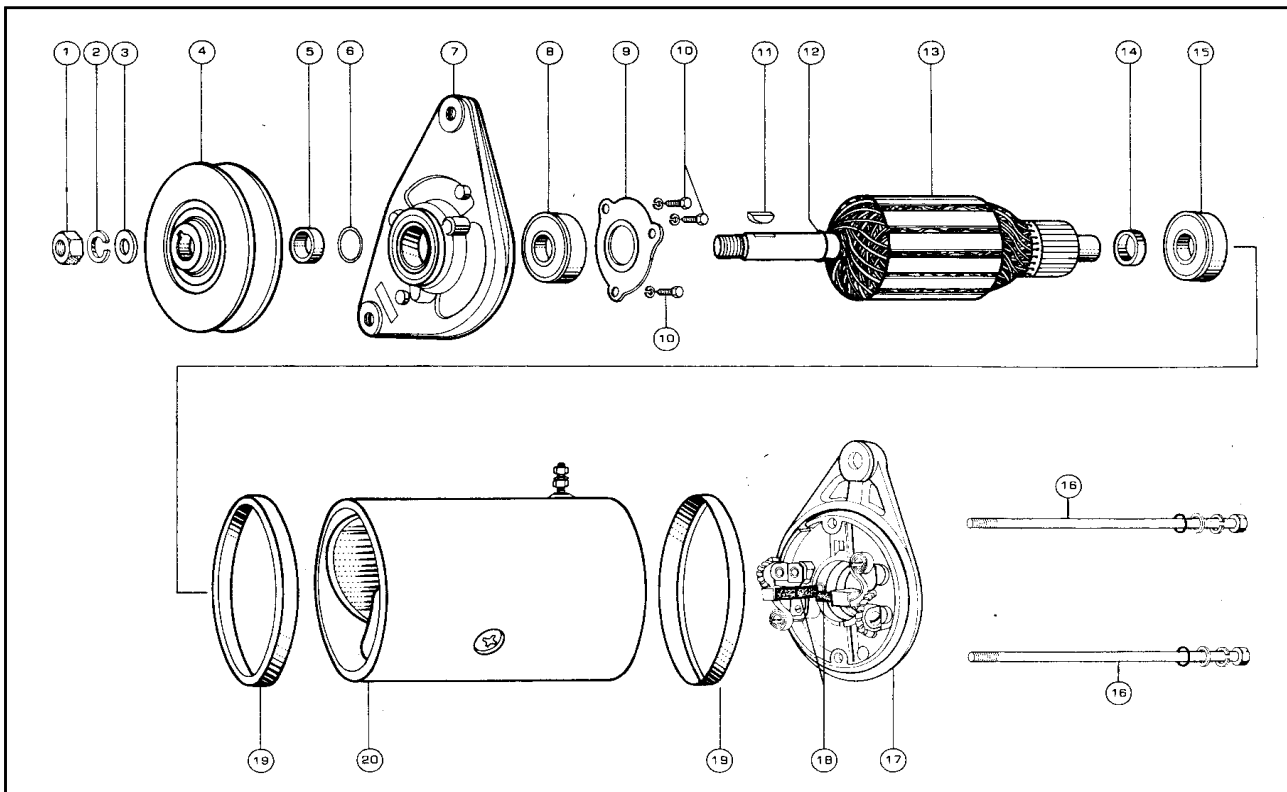

Figure 4
A five-position key-start switch is installed on all the tractors. For starting in temperatures down to -180°C (0°F) the thermostart option may also be installed. Basically the thermostart consists of an electrically heated element in the air intake manifold which, when operated, ignites a measure of diesel fuel and introduces it into the combustion chamber. With the thermostart installed, all the five positions of the key-start switch are connected as shown in Figure 4. However, if the automatic thermostart is not installed, the starting motor operates at position (4) while as position (5) is left unconnected.